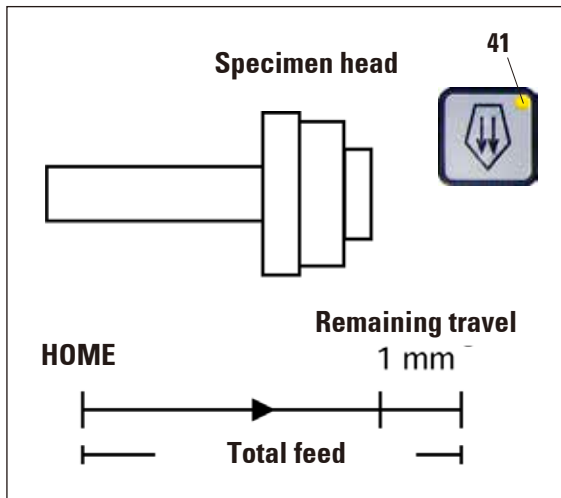

Fig. 18
- Set the specimen head to half the height of the vertical travel range by turning the handwheel (Fig. 18).